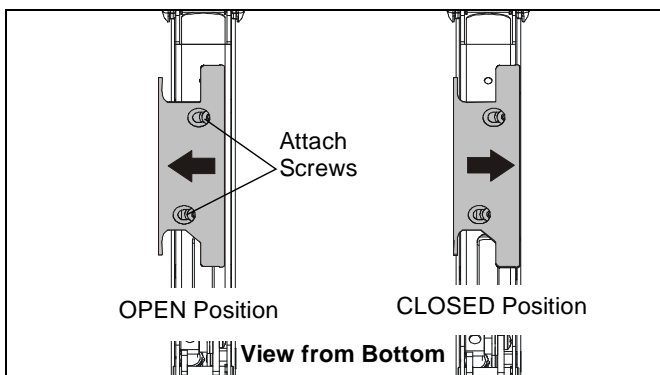

Figure 43
2. Open the cable management bracket by sliding it towards the edge of the arm. (See Figure 43)